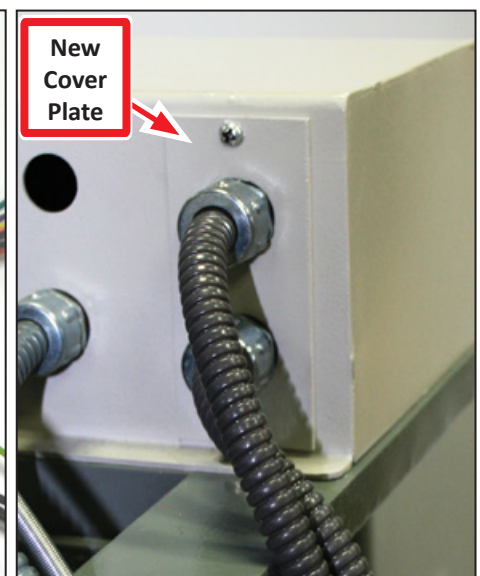

Figure 11
9. Use the two screws set aside earlier to install the new cover plate and Turret Harness assembly (see **Figure 11**).